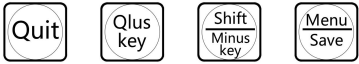

Figure 1
4.1 keyboard description ( Figure 1)